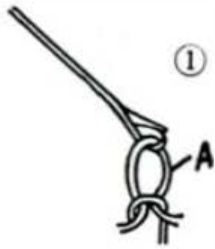

Fig. 15
- b. Remove the handle from the accessory box and fasten to the two threaded studs on carriage. (See Fig. 15). Both sides should be screwed down at the same time to avoid stripping the thread.